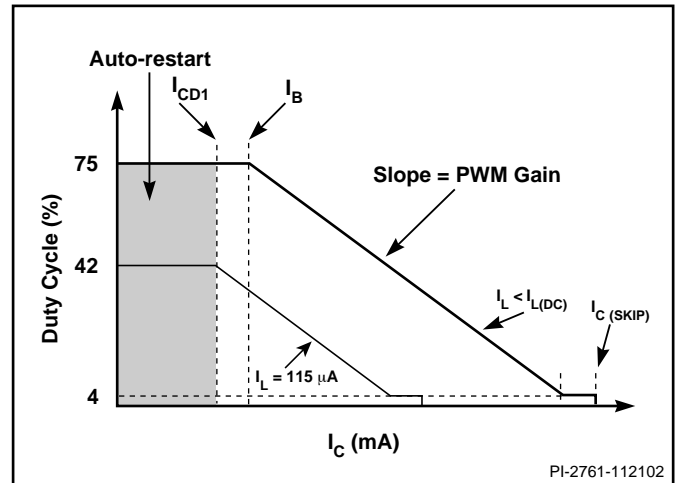

Figure 4. Relationship of Duty Cycle to CONTROL Pin Current.
*DPA-Switch* is an integrated switched mode power supply chip that converts a current at the control input to a duty cycle at the open drain output of a high voltage power MOSFET. During normal operation the duty cycle of the power MOSFET decreases linearly with increasing CONTROL pin current as shown in Figure 4. A patented high-voltage CMOS technology allows both the high-voltage power MOSFET and all the low voltage control circuitry to be cost effectively integrated onto a single monolithic chip.
The pulse width modulator implements voltage mode control by driving the output MOSFET with a duty cycle inversely proportional to the current into the CONTROL pin that is in excess of the internal supply current of the chip (see Figure 4). The excess current is the feedback error signal that appears across  $R_E$  (see Figure 2). This signal is filtered by an RC network with a typical corner frequency of 30 kHz to reduce the effect of switching noise in the chip supply current generated by the MOSFET gate driver. The filtered error signal is compared with the internal oscillator sawtooth waveform to generate the duty cycle waveform. As the control current increases, the duty cycle decreases. A clock signal from the oscillator sets a latch that turns on the output MOSFET. The pulse width modulator resets the latch, turning off the output MOSFET. Note that a minimum current must be driven into the CONTROL pin before the duty cycle begins to change.
To maintain power supply output regulation, the pulse width modulator reduces duty cycle as the load at the power supply output decreases. This reduction in duty cycle is proportional to the current flowing into the CONTROL pin. As the CONTROL pin current increases, the duty cycle reduces linearly towards a minimum value specified as minimum duty cycle,  $DC_{MIN}$ . After reaching  $DC_{MIN}$ , if CONTROL pin current is increased further by approximately 2 mA, the pulse width modulator will force the duty cycle from  $DC_{MIN}$  to zero in a discrete step (refer to Figure 4). This feature allows a power supply to operate in a cycle skipping mode when the load consumes less power than the *DPA-Switch* delivers at minimum duty cycle,  $DC_{MIN}$ . No additional control is needed for the transition between normal operation and cycle skipping. As the load increases or decreases, the power supply automatically switches between normal and cycle skipping mode as necessary.
The same resistor used for UV and OV also implements line voltage feed forward that minimizes output line ripple and reduces power supply output sensitivity to line transients. This feed forward operation is illustrated in Figure 4 by the different values of  $I_L$ . Note that for the same CONTROL pin current, higher line voltage results in smaller operating duty cycle. As an added feature, the maximum duty cycle  $DC_{MAX}$  is also reduced from 75% (typical) at a voltage slightly higher than the UV threshold to 33% (typical) at the OV threshold (see Figures 4, 7). Limiting  $DC_{MAX}$  at higher line voltages helps prevent transformer saturation due to large load transients in forward converter applications.  $DC_{MAX}$  of 33% at the OV threshold was chosen to ensure that the power capability of the